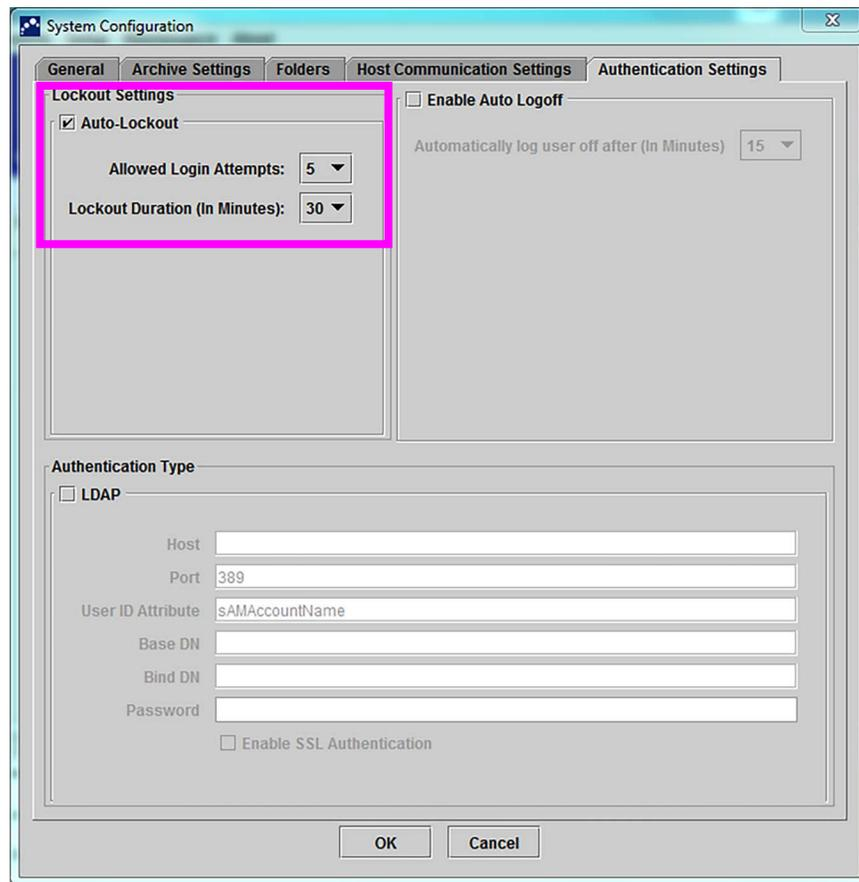

Figure 2-85. Authentication Settings Configured for Auto-Lockout
2. Click the **Authentication Settings** tab; the Authentication Settings information appears. See Figure 2-85.